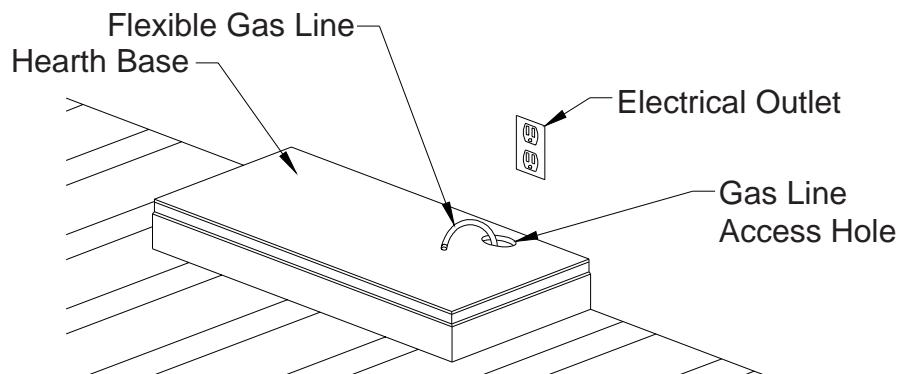

Figure 6 - Placing (optional) Hearth Base against wall
2. If using an optional VFZCB blower, install a properly grounded, 120 volt three-prong electrical outlet at firebox location if an outlet is not there. If possible, locate outlet so cabinet mantel will cover it when installed (see Figure 6, below).
4. Place (optional) hearth base accessory against wall at installation location. Cut an access hole in hearth top to run flexible gas line to firebox (see Figure 6). Make sure to locate access hole so cabinet mantel will cover it when installed. **NOTE:** you can secure base to floor using wood screws. Countersink screw heads and putty over.